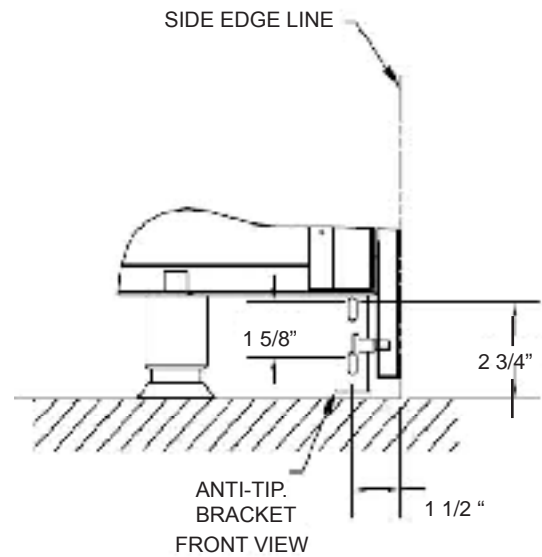

FIGURE 2
2. Mark the anti-tip wall mount bracket, as shown on figure 2: